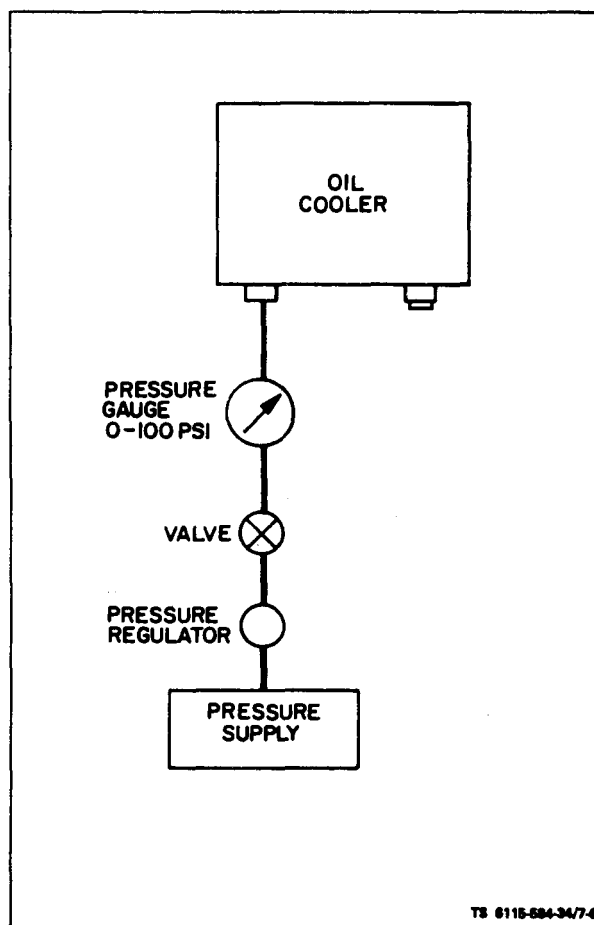

Figure 7-6. Testing Oil Cooler
c. Test (see figure 7-6).
(1) Plug the oil cooler outlet using suitable plug.
(2) Connect the oil cooler in suggested test set-up (see figure 7-6).
(3) Apply 25 psi air pressure to the oil cooler.
(4) Close the valve and monitor the pressure. A drop in air pressure indicates a leak in the oil cooler.